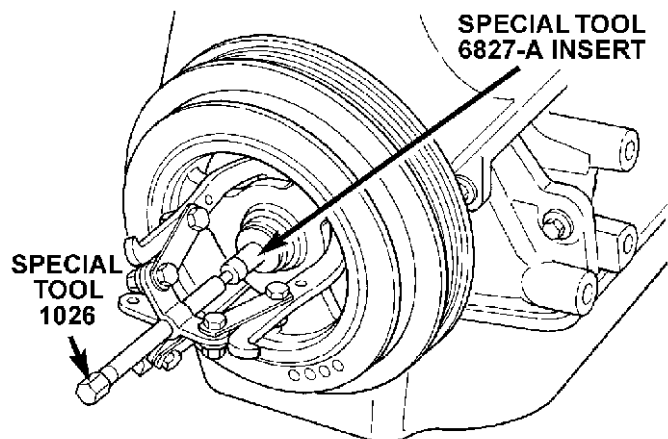

Fig. 56 Crankshaft Damper—Removal
(1) Using Special Tool 1026 and Insert 6827-A, remove crankshaft damper (Fig. 56).